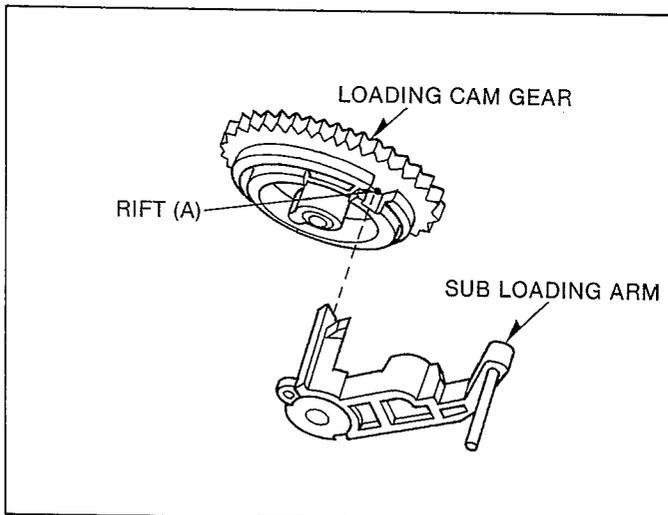

Fig. A5
1. Install the Loading Cam Gear so that the end of Sub Loading Arm comes to the rift (A) of Loading Cam Gear as shown in Fig. A5.